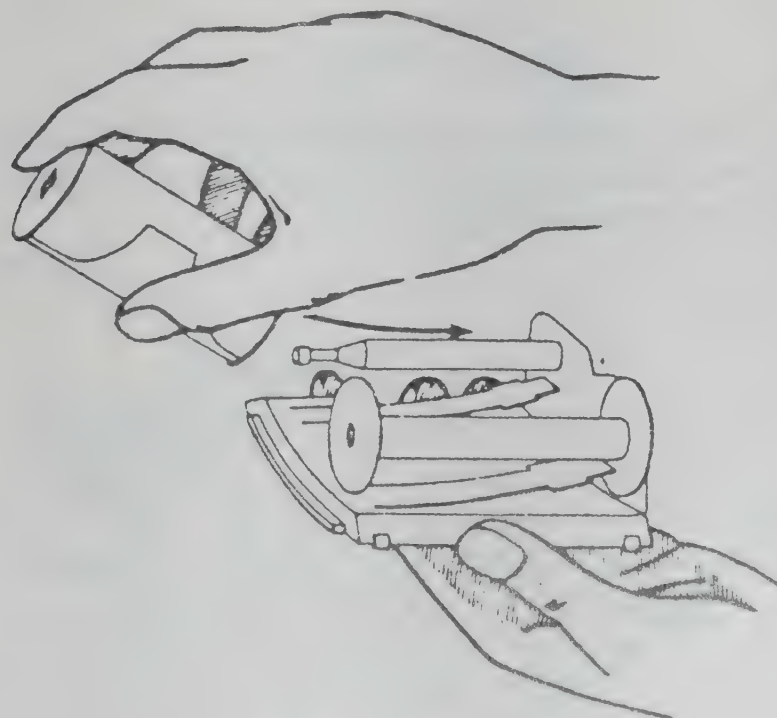

FIG. 5
- Step 1 — Keep two buckets of water as shown in Fig.5.